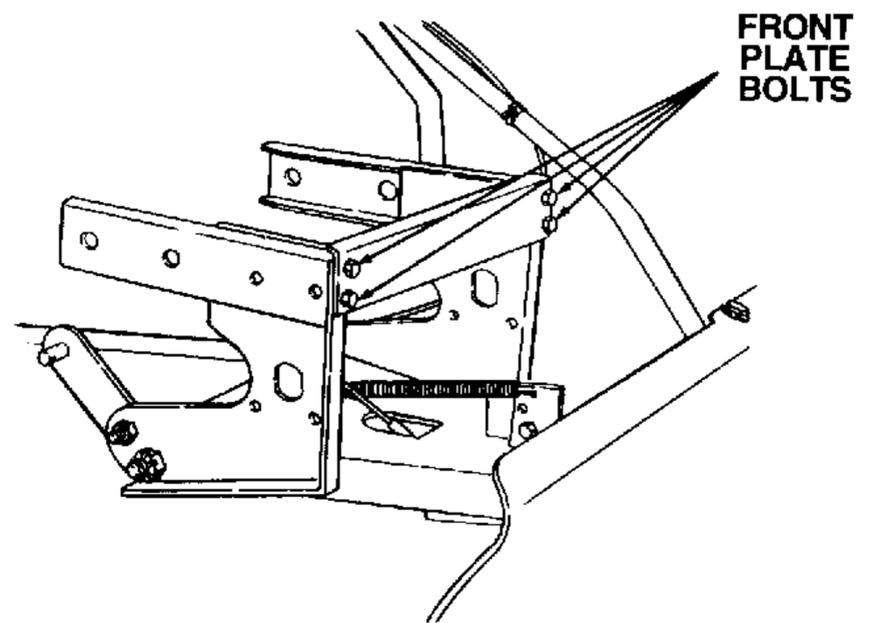

Figure 7-20. Loosen Front Support Plate.
10. Loosen BUT DO NOT REMOVE the four screws that fasten the front support plate to the LH and RH hitch plates. See Figure 7-20.